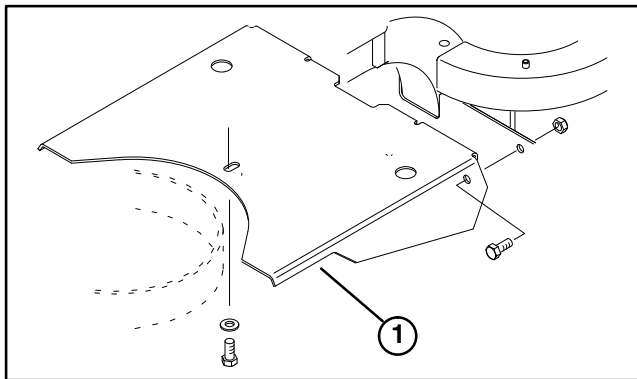

Figure 5
d. On Sand Pro 5000 only – Remove capscrews, washers and nuts securing chain shield to frame (Fig. 5).